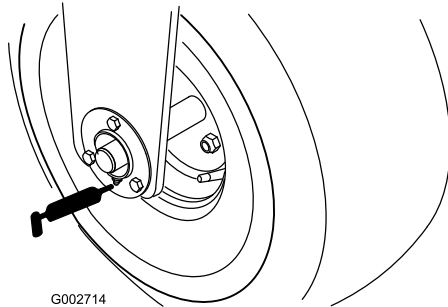

Figure 22
- Front wheel bearing (1) (Figure 22)